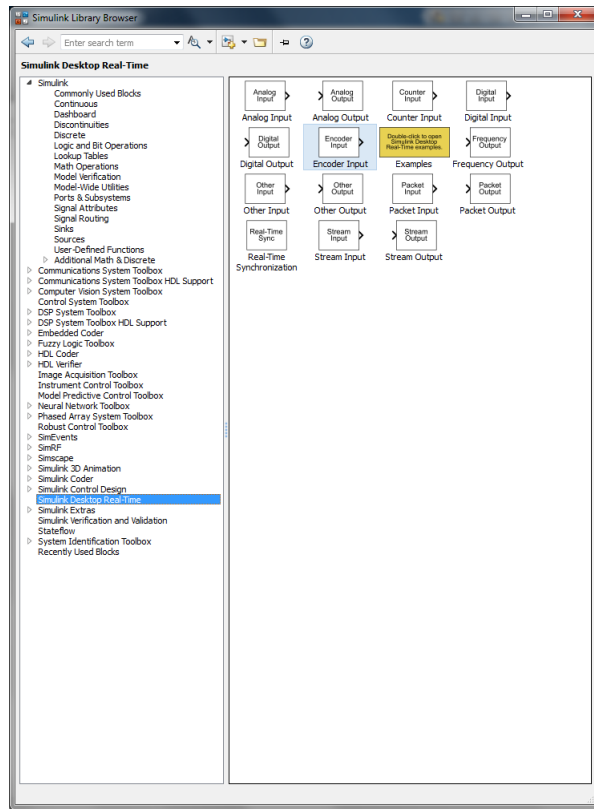

Figure 14: Encoder Input Simulink block.
1. Open the Simulink Library Browser, and click on the **Simulink Desktop Real-Time** library. Under the **Simulink Desktop Real-Time** library, select the **Encoder Input** block; see Figure 14.
1. Open the Simulink Library Browser, and click on the Simulink Desktop Real-Time library. Under the Simulink Desktop Real-Time library, select the Analog Output block (this block is located above the Encoder Input block in Figure 14).